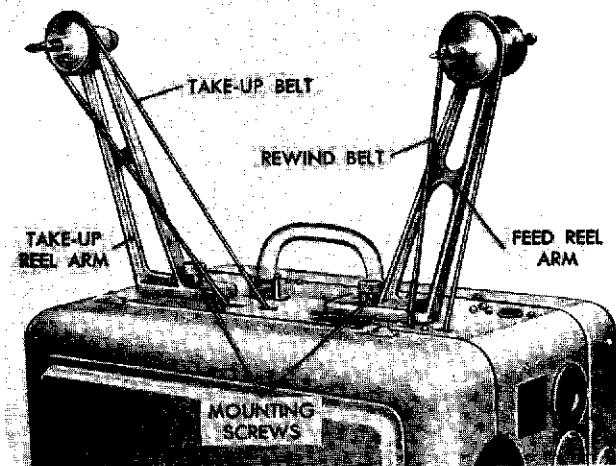

Figure 1-12. Reel Arms and Belts Installed
a. When not in use, the reel arms are mounted inside the case door (figures 1-2 and 1-2A). Remove the reel arms by loosening the knurled locking screw on each arm. The feed reel arm mounts at the front of the projector case and the take-up reel arm at the rear (figure 1-12).
b. On AQ-2A(1) projectors, the reel arms can be installed and tightened down before looping the spring belts over the reel arm pulleys. Make certain that the belts are engaged in their respective pulleys within the projector and that the belts are not twisted.
c. On AQ-2A(3) projectors, the fabric belts should be engaged with their respective pulleys within the projector and looped over the reel arm pulleys before the reel arms are seated and tightened down. Hold the reel arms in position on the case, but tipped slightly toward front of projector, while looping belts over pulleys. Then seat the reel arm and tighten the knurled screw. Adjust belt tension, if necessary (paragraph 4-19).